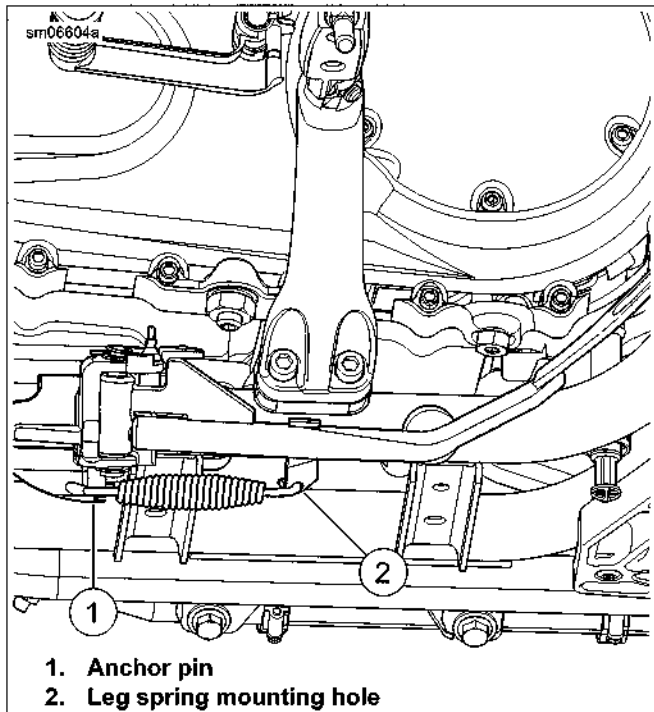

Figure 2-173. Jiffy Stand (typical)
3. See Figure 2-173. Install spring.
- a. Hook spring into spring mounting hole (2) on leg.
- b. Hook spring over frame mounted anchor pin (1).